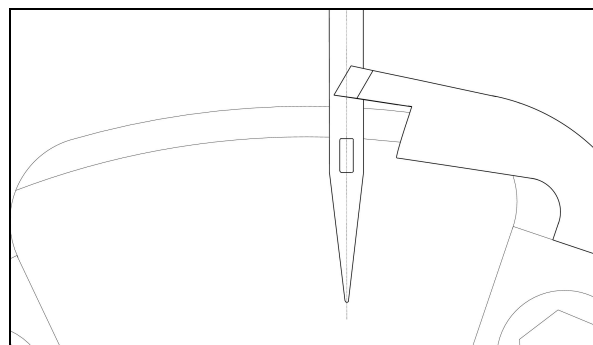

Fig 2
- d. Tighten screw **(B)** on P23, Fig 2 in the required mode (cut before or cut after).